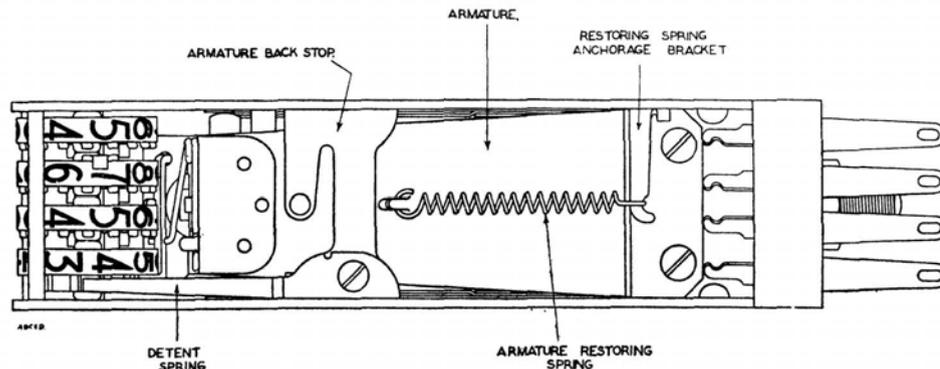

FIG. 1.—‘A’ VIEW
**1. Introduction.**—This Instruction details maintenance adjustments for the P.O. standard (100-type) meter, which is illustrated in Figs. 1, 2 and 3.